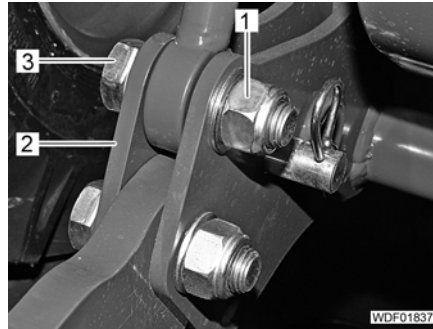

Fig. 459 Fastening of the cylinder of the rear three-point linkage
- Unscrew 1 nut (Fig. 459,1) (if present) on each side and remove bolt (Fig. 459,3).
- On each side, insert bolt (Fig. 459,3) (if present) with washer through the holder (Fig. 459,2) into the hole on the rod side of the cylinder of the rear three-point linkage.
- Screw new nut (Fig. 459,1) with washer onto the bolt and tighten so that the rear three-point linkage can still move.